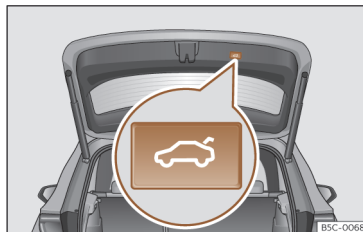

Fig. 76 Rear lid: button to close rear lid.
OR: press the button on the rear lid >>> **Fig. 76.**
- Briefly press the  button on the rear lid >>> **Fig. 76**, >>>  in *Introduction* on page 97.
Throughout the process of opening or closing the rear lid, acoustic warnings can be heard. *Exception:* when the rear lid is opened manually using the handle or the Easy Open function with the movement of the foot or closed using the button on the rear lid itself >>> **Fig. 76**.
- Press the  >>> **Fig. 76** button on the rear lid for at least 3 seconds.